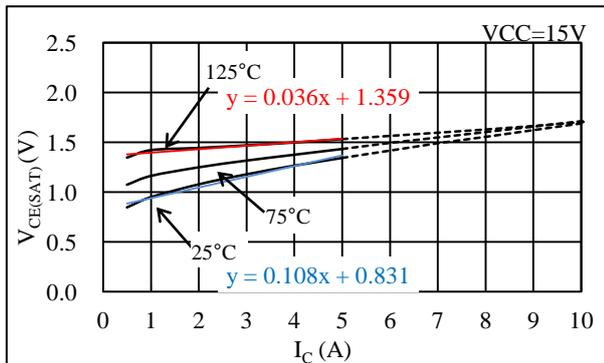

Figure 14-1. Linear approximate equation of $V_{CE(SAT)}$ vs. I_C curve
The steady-state loss in an IGBT can be computed by using the $V_{CE(SAT)}$ vs. I_C curves, shown in Section 15.3.1. As shown in Figure 14-1, the following linear approximate equation can be obtained from the curves: $V_{CE(SAT)} = \alpha \times I_C + \beta$. The slope and intercept of the linear approximate equation are used in Formula (4).